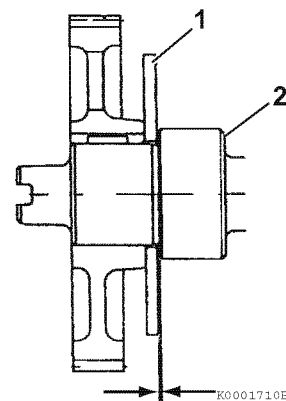

Figure 6-49
- **Method B:** Use a feeler gauge to measure the clearance between the thrust plate (**Figure 6-49, (1)**) and front camshaft bearing (**Figure 6-49, (2)**). Record the measurement. See *Thrust Bearing* on page 6-9 for the service limit.